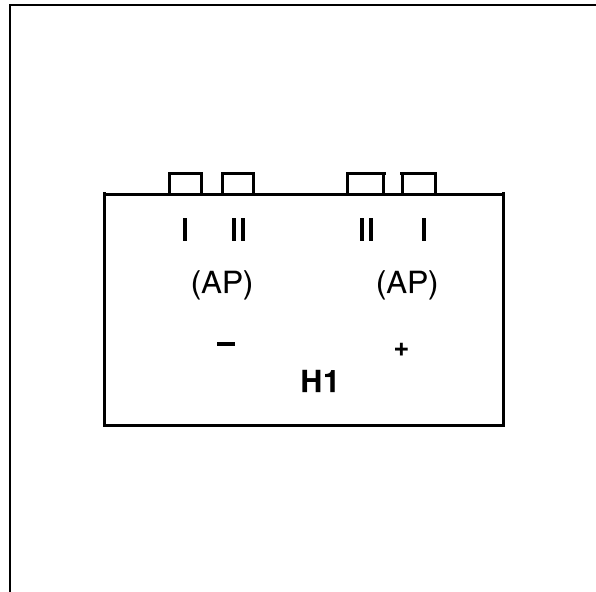

Fig. 49:
- Insert the high-voltage plugs in H1 as designated (Fig. 49 / p. 44).